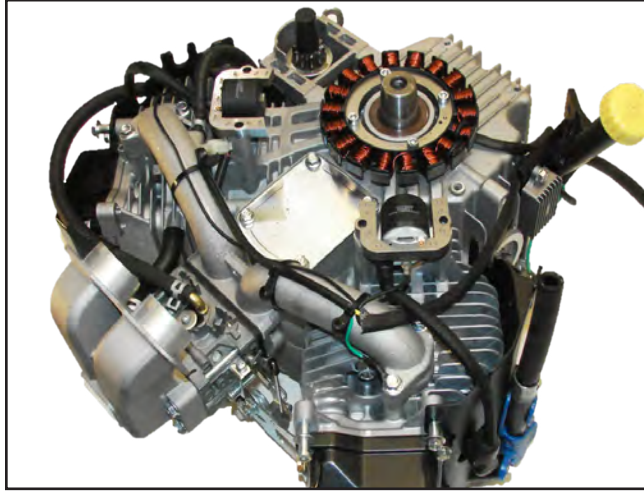

Figure 23
**NOTE:** The intake manifold has the engine wire harness attached to it with zip ties. If reusing all components, remove as an assembly; intake manifold, wire harness and voltage regulator mounted to the dipstick tube (Figure 23).